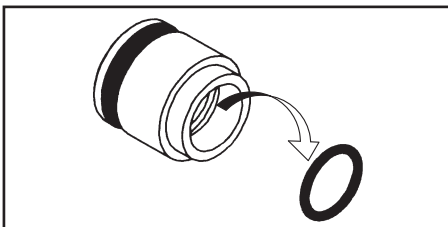

Figure 23
- Remove the packing from the throat bearing (See Figure 23).